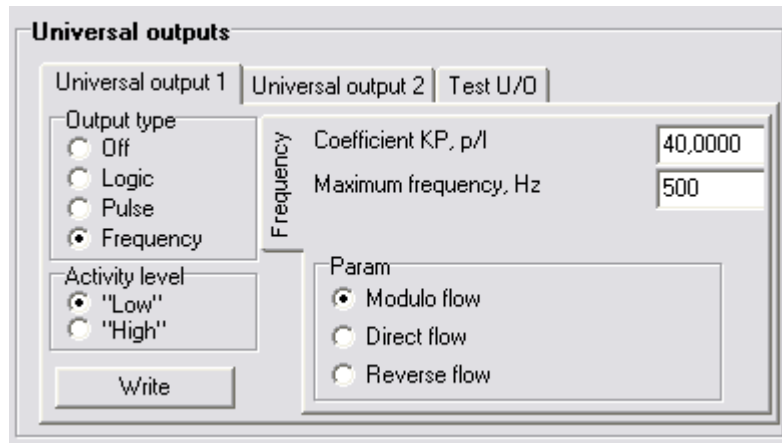

Fig.9. "Universal outputs" panel
2.4.1. Settings of universal outputs are located in **Periphery settings** tab (**Universal outputs** panel) in Viewer main window (Fig.9).